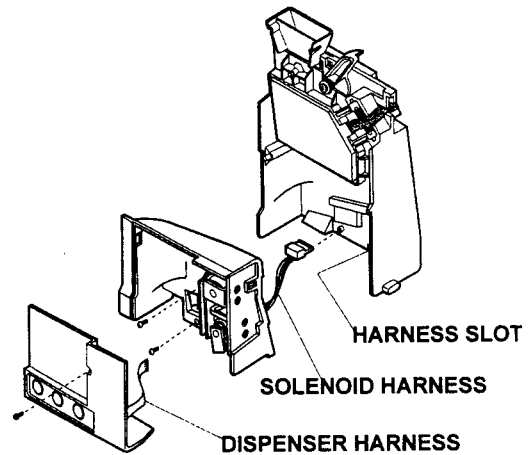

Figure 18: Removing the Gate Assembly
- Remove the Phillips head screw from the Gate Cover (Figure 18). Pull the cover up and to the right so that it clears the retaining tab located in the upper-left corner of the assembly.
- Remove the two Phillips head screws holding the Gate Assembly in place (Figure 18). One screw is located above the 10¢ window; the other is below the 5¢ window. Lift out the Gate Assembly.